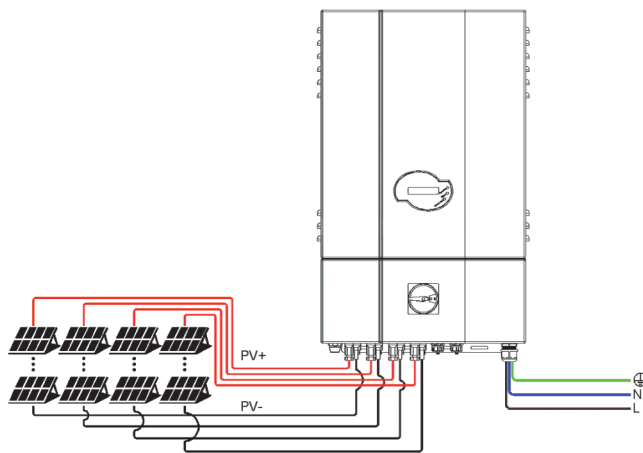

Fig 2.3.2.1 PV-terminal connection
Up to four (4) (three (3) for SE 2.8i) independent PV strings (4 pairs) can be connected to the SE inverter as shown in the figure 2.3.2.1. The PV strings will be connected in parallel in the wiring box.